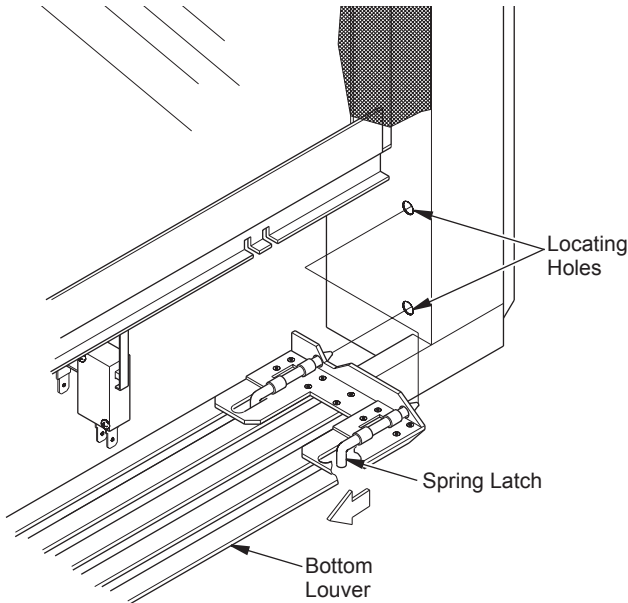

Figure 5 - Removing Louvers (Direct Vent Models)
1. For wood burning and vent free fireplaces, remove top and bottom (if equipped) louver panels by carefully prying out at corner and slowly pull away from fireplace (see Figure 1). For B-vent fireplaces refer to step 1 and Figure 5, page 2, to remove louver panels.
- Remove existing top and bottom louvers by simultaneously pulling both top end spring latches towards center until disengaged from locating holes (See Figure 5).